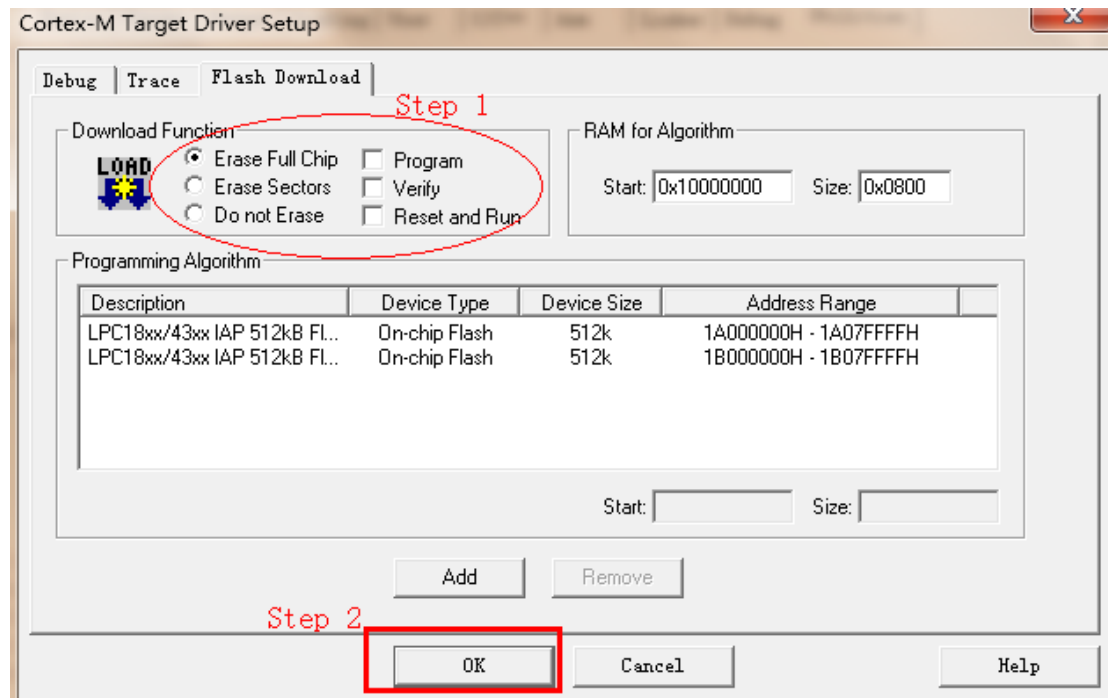

Figure 3-21
② choose “Erase Full Chip” in Download Function and remove “Program” and “Verify”, click “OK” to save configuration. Refer to figure 3-21: